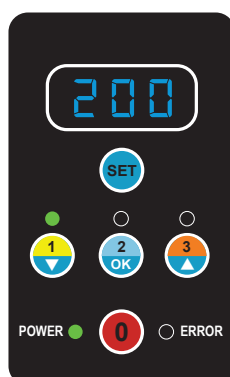

Figure 6 - Power Level (Watts) Setting
3. After selecting S1, S2, or S3 the power level for that setting flashes on the LED display. Use the **1** and **3** buttons to select the desired power level (Watts). Press the **2 OK** button to save the power level and move on to the duration setting. (See Figure 6)